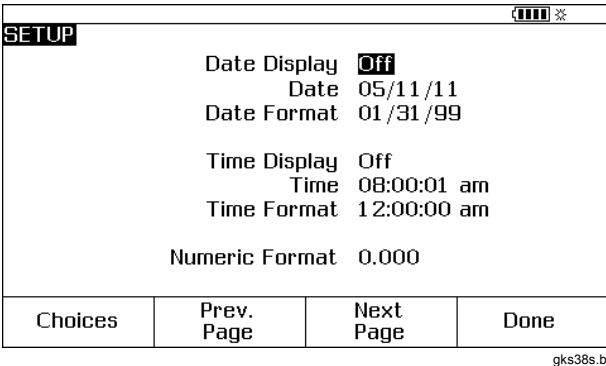

Figure 9. Time and Date Display
- 2. Push the **Next Page** softkey. See Figure 9.